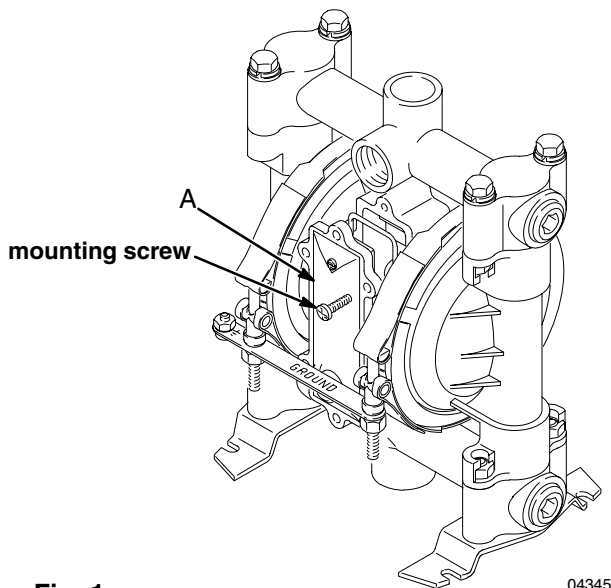

Fig. 1
1. Unscrew the six mounting screws, and remove the air valve (A) from the pump. See Fig. 1.